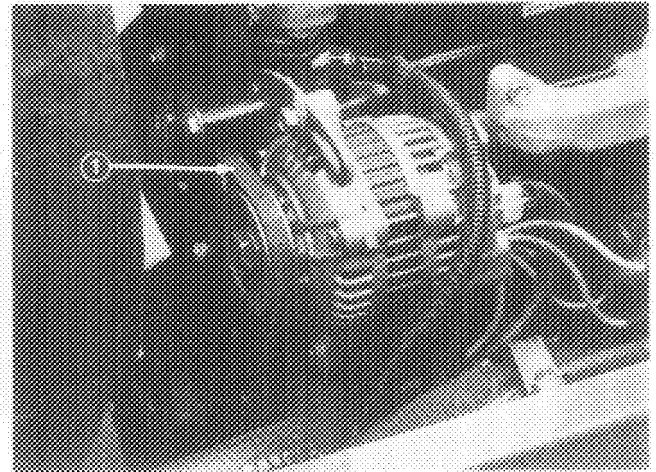

Figure 57
SERVICING ENGINE BELTS (Fig. 57 & 58)
3. Loosen bolt securing brace to engine and bolt securing alternator to brace (Fig. 57).